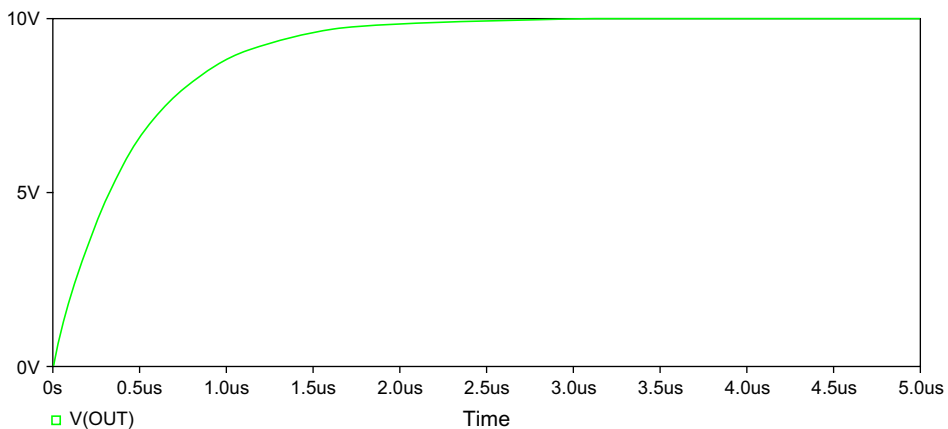

FIGURE 12.6 Voltage across capacitor initially rising exponentially.
- You should see the familiar exponential voltage rise across the capacitor (see Figure 12.6).